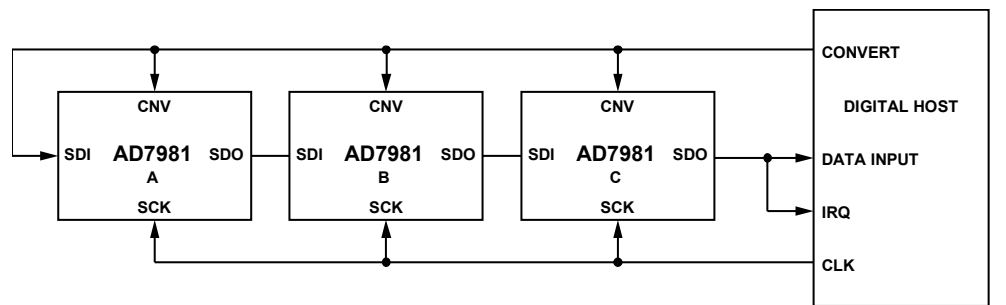
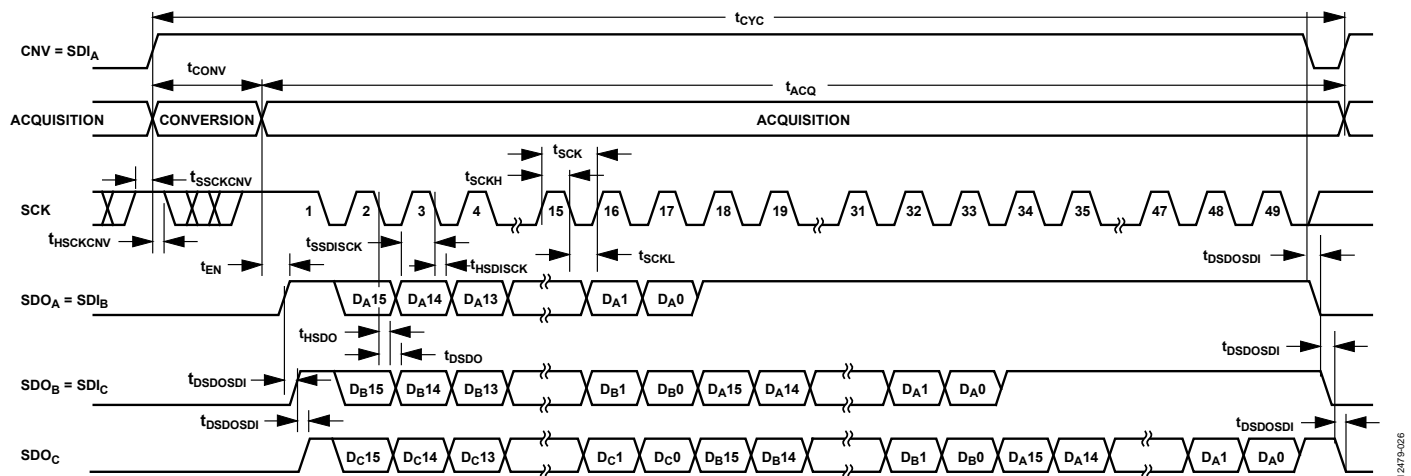

Figure 52. Chain Mode with Busy Indicator Connection Diagram
Figure 53. Chain Mode with Busy Indicator Serial Interface Timing
- In chain mode if SCK is high during the CNV rising edge (see Figure 53).
A connection diagram example using three AD7981 devices is shown in Figure 52, and the corresponding timing is given in Figure 53.
data readback. When all ADCs in the chain have completed their conversions, the SDO pin of the ADC closest to the digital host (see the AD7981 ADC labeled C in Figure 52) is driven high. This transition on SDO can be used as a busy indicator to trigger the data readback controlled by the digital host. The AD7981 then enters the acquisition phase and powers down. The data bits stored in the internal shift register are clocked out, MSB first, by subsequent SCK falling edges. For each ADC, SDI feeds the input of the internal shift register and is clocked by the SCK falling edge. Each ADC in the chain outputs its data MSB first, and  $16 \times N + 1$  clocks are required to read back the N ADCs. Although the rising edge captures the data, a digital host using the SCK falling edge allows a faster reading rate and, consequently, more AD7981 devices in the chain, provided the digital host has an acceptable hold time.